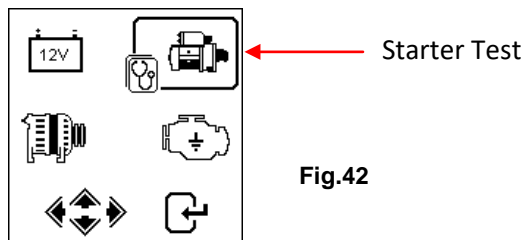

Fig.42
From the main MENU (Fig.42), select  by scrolling left using  key
- Pressing the  key will exit and return back to the main menu screen (Fig.42)